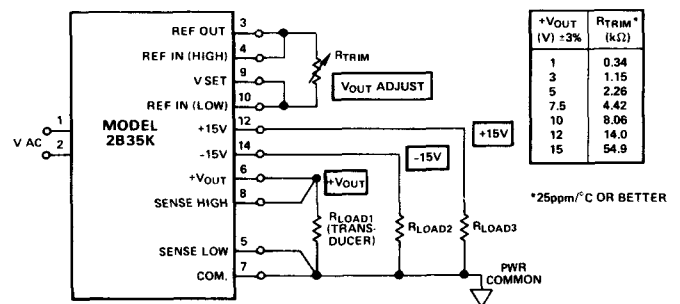

Figure 1. Model 2B35K Connection Diagram for Dual 15V dc and Adjustable +1V to +15V Output
where RG is the input stage resistor shown in Figure 1 and RF is the variable 10kΩ resistor in the output stage. For best performance, the input stage gain should be made as large as possible, using a low temperature coefficient (10ppm/°C) RG, and the output stage gain can then be used to make a ±20% linear gain adjustment by varying RF.
**Input Offset Adjustment:** To null input offset voltage, an optional 100kΩ potentiometer connected between pins 13 and 14 (Figure 1) can be used. With gain set at the desired value, connect both inputs (pins 12 and 15) to the system common (pin 28), and adjust the 100kΩ potentiometer for zero volts at pin 3. The purpose of this adjustment is to null the internal amplifier offset and it is not intended to compensate for the transducer bridge unbalance.
**Output Offset Adjustment:** The output of the 2B30/2B31 can be intentionally offset from zero over the ±1.5V range by applying a voltage to pin 29, e.g., by using an external potentiometer or a fixed resistor. Pin 29 is normally grounded if output offset setting is not desired. The optional filter amplifier offset null capability is also provided as illustrated in Figure 1.
**Filter Cutoff Frequency Programming:** The low pass filter cutoff frequency may be increased from the internally set 2Hz by the addition of three external resistors connected as shown in Figure 1. The values of resistors required for a desired cutoff frequency, fc, are obtained by the equations below:
Figure 1 illustrates operation of the 2B35K providing an adjustable voltage output and dual 15V dc outputs. The resistor programmable output (+VOUT) is set between +1V to +15V by the RTRIM. RTRIM may be determined by using either the table shown in Figure 1 or the graph shown in Figure 2. For example, to provide an adjustable range from +1V to +6V, RTRIM should be a 5k $\Omega$  pot.